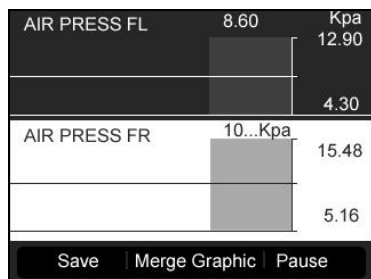
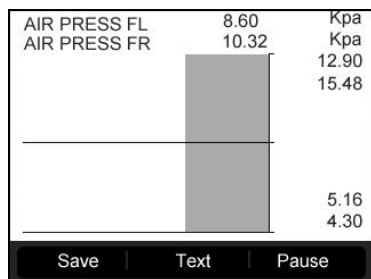

Figure 4.33
Figure 4.34
- When the sensor data is shown in graph, the tool offers two more options: **Two Graphic** and **Merge Graphic**. The first option can display two graphs on the same screen (Figure 4.33), and the last option can merge the two graphs into one. (Figure 4.34).